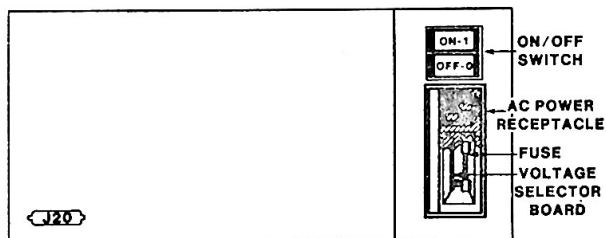

Figure 2-4. System 310 Chassis Back Panel
Before attaching a terminal and powering up a the System 310, check the voltage selector mounted on the AC back panel (Figure 2-4). The voltage selector must be set to the proper line voltage and current rating. Refer to the appropriate power supply section for voltage-fuse selection.
2. Slide the fuse cover up to expose the fuse and voltage selector board, shown in Figure 2-4.
Attaching a Terminal to Your System 310. To attach the terminal to your system, connect a standard RS-232 cable between connector J20 on the System 310 back panel (Figure 2-4) and the connector located on the back of the terminal. Be sure the baud rate of the terminal is set to 9600, parity-none and one start/stop bit. Refer to the following table for the list of compatible terminals.